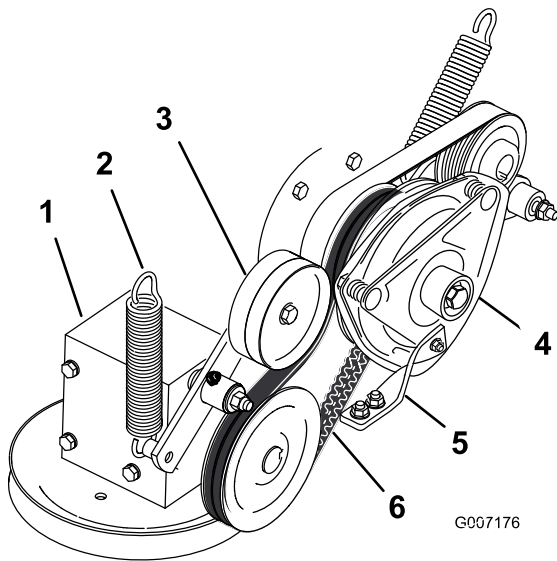

Figure 70
- Remove the spring from the idler arm (Figure 70).
- Install the PTO drive belt around the clutch pulley and the gearbox pulley (Figure 70).
- Install the spring to the idler arm (Figure 70).